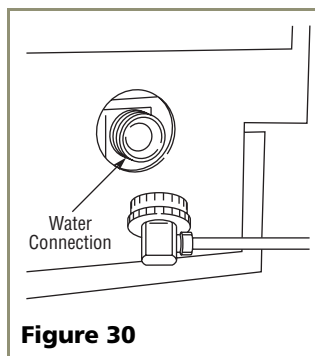

Figure 30
1. Install the 1/4 inch OD copper water line from the main water source (see **Figure 30**).